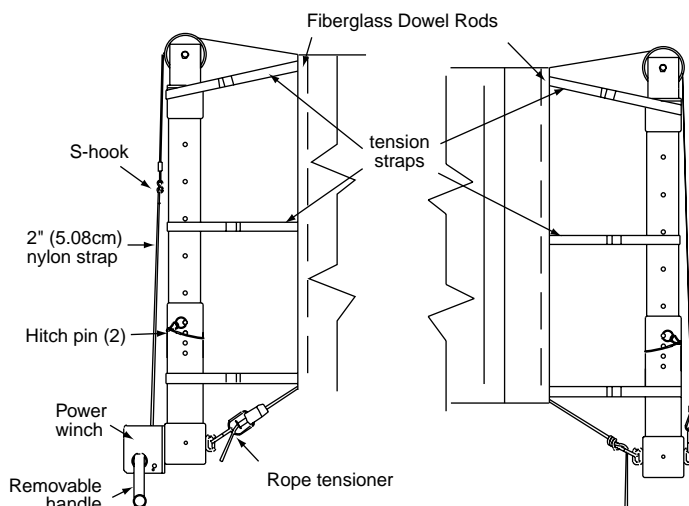

Figure 3
- ④ Install standards in floor sleeves.
- ⑤ Set top post at net height by removing hitch pin and resetting hitch pin at required height. NOTE: Proper height is stamped on side of post.
- ⑥ Measure distance from finished floor to top of sheave. This dimension should be 3/4" (2 cm) higher than required net height. If necessary, remove standard from sleeve and adjust rubber bumper until desired height is reached.
- ⑦ Unroll net on floor between standards.
- ⑧ Unspool the 2" nylon strap from winch. Hook one end of the top net cable in hook on belt. Hook opposite end of top net cable to cable anchor collar on the other standard (see Fig. 3).
- ⑨ Tighten net by turning winch handle clockwise. Measure distance from top of net to finished floor at the center of the net.
- ⑩ Install 1/2" fiberglass rods in ends of net (see Fig. 3).
- ⑪ Wrap net straps once around standards and tighten using buckles (see Fig. 3).
- ⑫ Install tensioner to winch end of net rope by inserting rope through beveled end of tensioner. Attach one side of S-hook to tensioner handle, and the other side of S-hook to the cable anchor collar hook (see Fig. 3). Tighten by pulling on rope while holding tensioner.